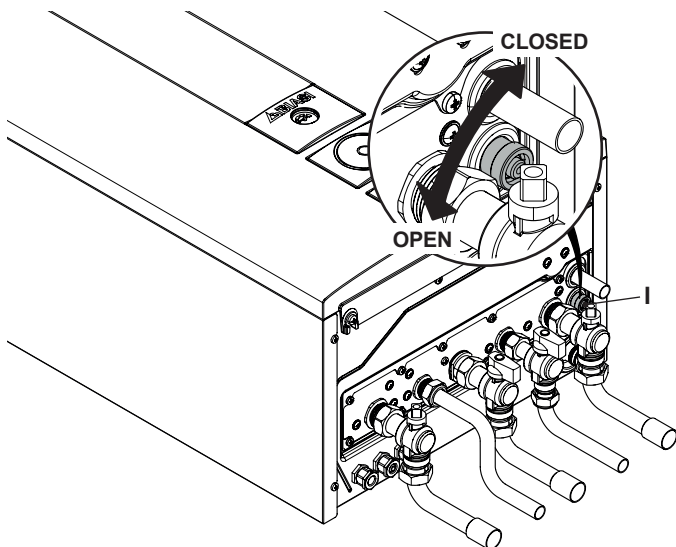

Figure 2.11
- 3 Loosen the central heating drain cock "I" (Figure 2.11) until the boiler is completely emptied.